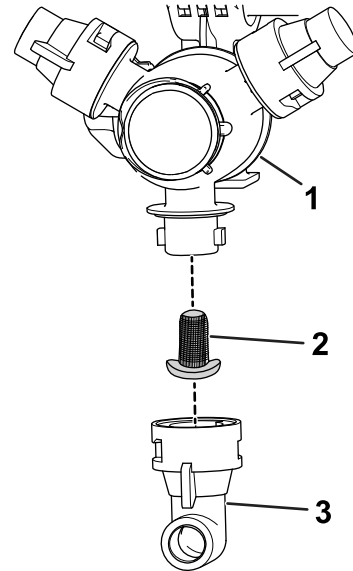

Figure 56
2. Remove the nozzle from the spray turret (Figure 56).
3. Remove the old nozzle filter (Figure 56).
4. Install the new nozzle filter (Figure 56).
5. Install the nozzle onto the spray turret (Figure 56).